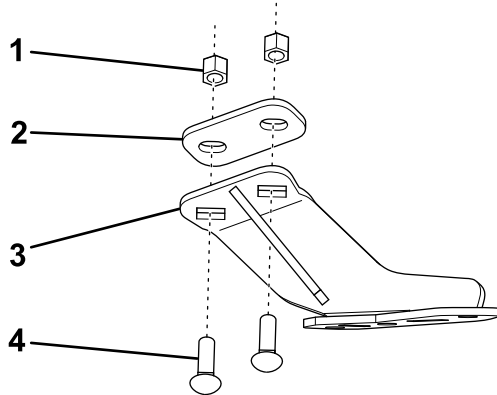

Figure 2
9. Secure the left support plate and spacer to the vehicle frame using 2 carriage bolts (3/8 inch) locknuts (Figure 2).